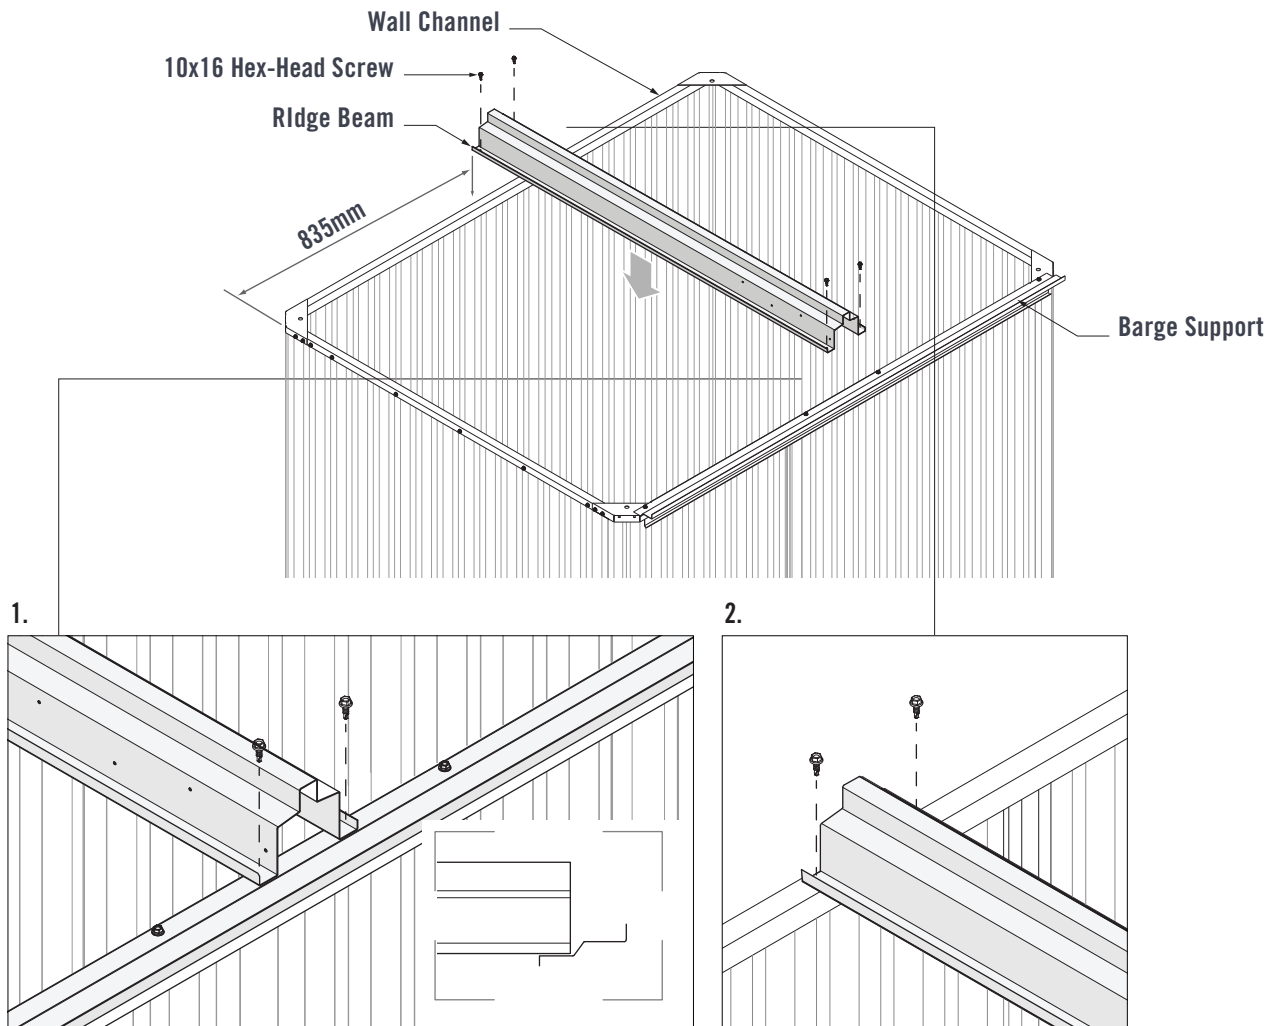

FIGURE 7.1
Fit the Ridge Beam onto the top Wall Channel and Barge Support. Ensure 835mm spacing between the edge of the shed and edge of the Ridge Beam (Figure 7.1).
1. Align the end of the Ridge Beam with the step of the Barge Support. Fasten two 10x16 Hex-Head Screws through the pilot holes in the Ridge Beam and into the Barge Support (Figure 7.1).
2. Fasten two 10x16 Hex-Head Screws through the pilot holes in the Ridge Beam and into the rear Wall Channel (Figure 7.1).